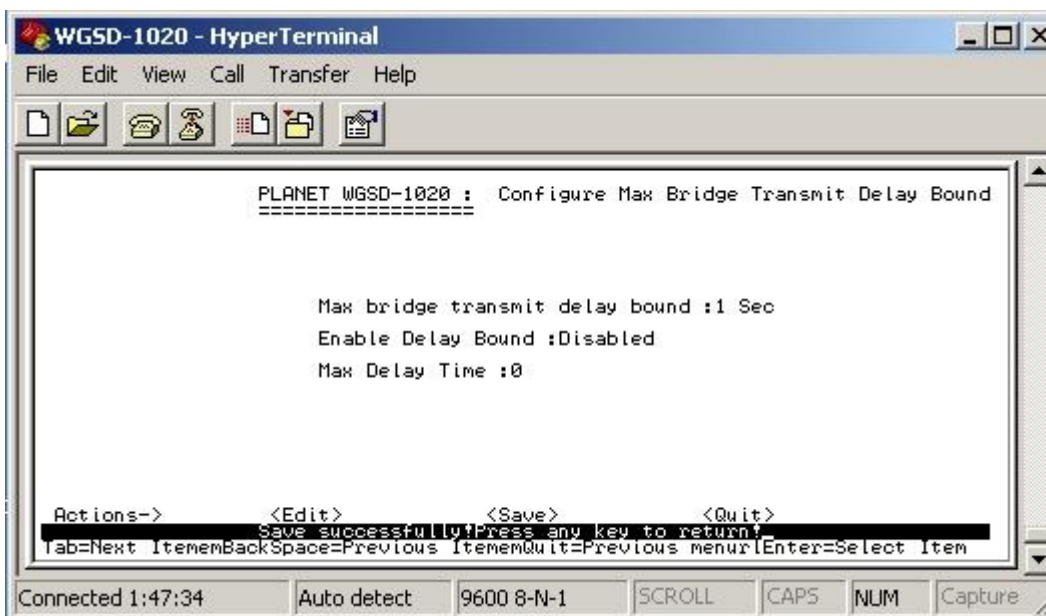

Figure 4-42 Max Bridge transmit delay bound save successfully screen
2. After setup completed, press” **Ctrl-A**” to “Action menu” and choose “save” to save the current configure. The screen in Figure 4-42 appears.